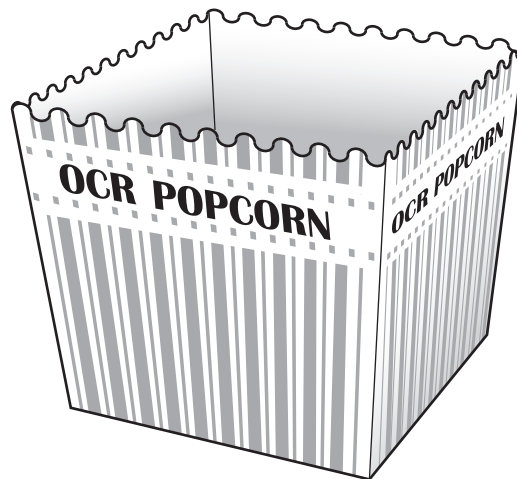

Fig. 1
16 Fig. 1 shows a popcorn bucket.
(a) (i) Name **one** suitable material for the popcorn bucket shown in Fig. 1.
(b) The manufacturer wants to make the popcorn bucket shown in Fig. 1 more comfortable and easier to hold for the consumer.
- (c) Sketch **one** modification to the popcorn bucket shown in Fig. 1 that would make it more comfortable and easier to use.